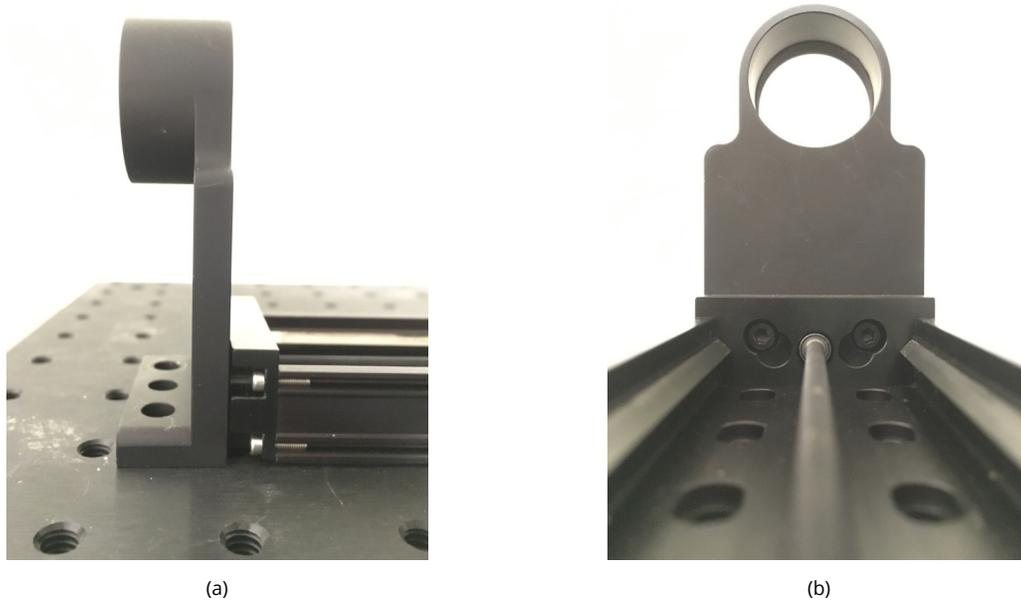

Figure 9.6: (a) Lens mount bracket attaches to end of stage (b) Two M3-0.50×8 mm screws are used to attach the lens mount bracket
3. Attach the **M2DU** lens mount bracket to the front of the M2DU stage using two M3-0.50×8 mm screws as shown in Fig. 9.6.